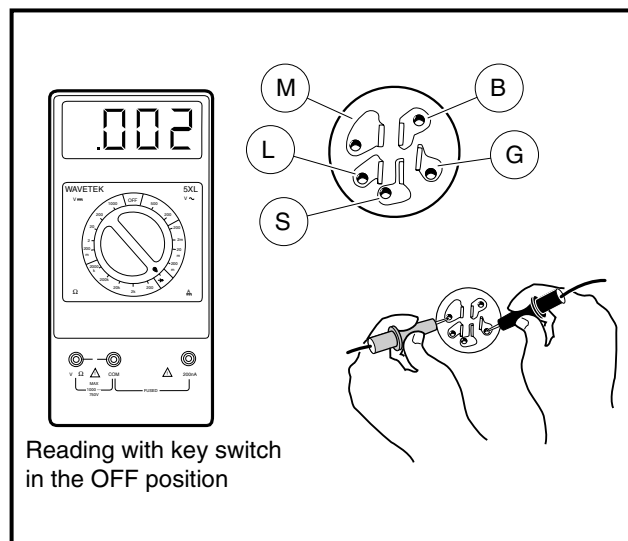

Figure 11a-52 Test Key Switch – Engine Kill Circuit
- Place the red (+) probe on the (M) terminal and the black (–) probe on the (G) terminal. With the key switch OFF, the reading should be continuity. With the key switch turned ON, the reading should be no continuity. If either reading is incorrect, replace the key switch (**Figure 11a-52, Page 11a-42**).
- Disconnect white/black wire bullet connector located at the engine RPM limiter (**Figure 11a-41, Page 11a-35**).